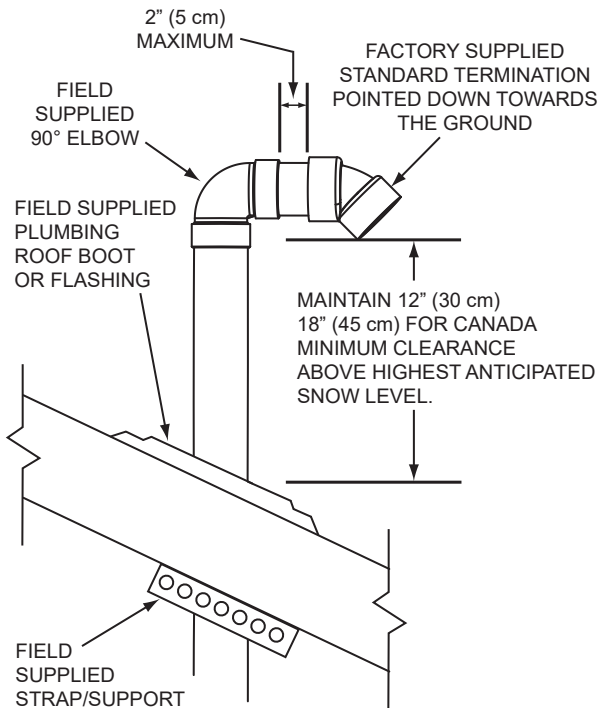
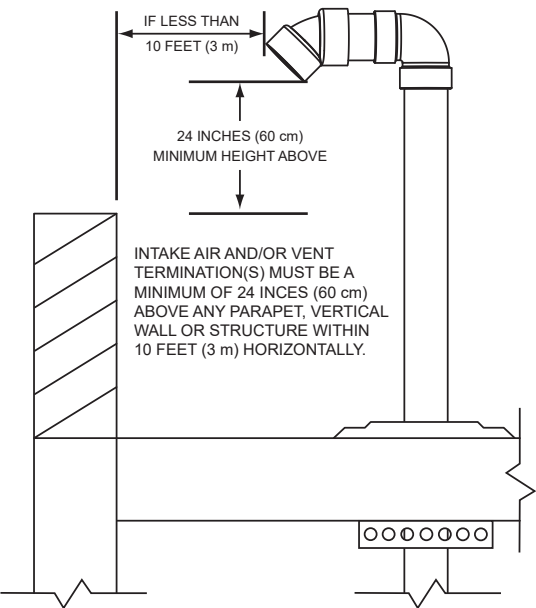
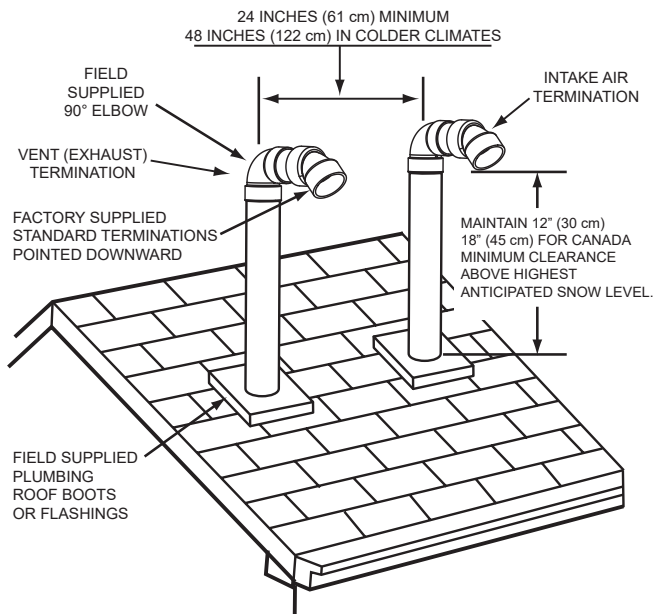

Figure 35. Vertical Termination(s) Installation
Figure 36. Vertical Termination(s) Flat Roof Parapet Clearance
Figure 37. Vertical Termination - Direct Vent
2. If installing only the vent (exhaust) piping in a power-vent configuration vertically through the roof, ensure that all exterior vertical clearance requirements shown in **Figure 35** and **Figure 36** (page 37) are being maintained. These clearances and those cited by local and national codes must be maintained.
Note: On flat roof installations, the vent termination must be a minimum of 24 in (60 cm) above any parapet, vertical wall, or structure within 10 ft (3 m) horizontally. See **Figure 36**.
vertical clearance requirements shown in **Figure 35**, **Figure 36** (page 37), and **Figure 37** (page 38) are being maintained. These clearances and those cited by local and national codes must be maintained.
Note: On flat roof installations, the intake-air and the vent terminations must be a minimum of 24 in (60 cm) above any parapet, vertical wall or structure within 10 ft (3 m) horizontally. See **Figure 36**.
- A. The vent termination must be oriented facing downward as shown in **Figure 35** and **Figure 36**.
- B. The bottom edge of the vent termination must be a minimum of 12 in (30 cm), 18 in (45 cm) in Canada, above the average or expected snow level as shown in **Figure 35**.
- A. The intake-air and vent pipes must penetrate the same side of the roof as shown in **Figure 37** (page 38).
- B. The intake-air and vent terminations must be oriented facing downward and in the same direction as shown in **Figure 37** (page 38).
- C. The intake-air and vent terminations must have a minimum separation of 24 in (61 cm) measured on the center line, as shown in **Figure 37**. In colder climates, this separation should increase to at least 48 in (122 cm).
- D. The bottom edge of the intake-air and vent terminations must be a minimum of 12 in (30 cm), 18 in (45 cm) in Canada, above the average or expected snow level as shown in **Figure 35** below.
The distance between the closest vent and intake-air terminations must be a minimum of 24 in (61 cm) as shown in **Figure 37** (page 38). In colder climates, this separation should be increased to at least 48 in (122 cm).
- 8. Suspend the pipe(s) through center of hole using field-supplied metal strapping or equivalent support materials as shown in **Figure 35**.
- 10. Install the factory-supplied intake-air and/or vent termination(s) using field-supplied pipe and one field-supplied 90° elbow as shown in **Figure 35**. The short section of pipe that connects between the field-supplied 90° elbow and the factory-supplied termination must not be excessive in length. The exposed portion of this pipe shall be no more than 2 in (5 cm). See **Figure 35**.